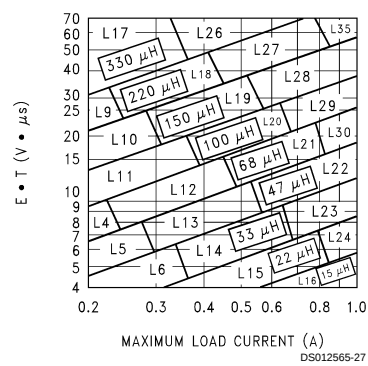

FIGURE 7. LM2595-ADJ
2. Inductor Selection (L1) A. Calculate the inductor Volt • microsecond constant $E \cdot T$ ($V \cdot \mu s$), from the following formula: $E \cdot T = (V_{IN} - V_{OUT} - V_{SAT}) \cdot \frac{V_{OUT} + V_D}{V_{IN} - V_{SAT} + V_D} \cdot \frac{1000}{150 \text{ kHz}} (V \cdot \mu s)$ where V_{SAT} = internal switch saturation voltage = 1V and V_D = diode forward voltage drop = 0.5V B. Use the $E \cdot T$ value from the previous formula and match it with the $E \cdot T$ number on the vertical axis of the Inductor Value Selection Guide shown in Figure 7. C. on the horizontal axis, select the maximum load current. D. Identify the inductance region intersected by the $E \cdot T$ value and the Maximum Load Current value. Each region is identified by an inductance value and an inductor code (LXX). E. Select an appropriate inductor from the four manufacturer's part numbers listed in Figure 8. 3. Output Capacitor Selection (C_{OUT}) A. In the majority of applications, low ESR electrolytic or solid tantalum capacitors between 47 μF and 330 μF provide the best results. This capacitor should be located close to the IC using short capacitor leads and short copper traces. Do not use capacitors larger than 330 μF. For additional information, see section on output capacitors in application information section. B. To simplify the capacitor selection procedure, refer to the quick design table shown in Figure 3. This table contains different output voltages, and lists various output capacitors that will provide the best design solutions. C. The capacitor voltage rating should be at least 1.5 times greater than the output voltage, and often much higher voltage ratings are needed to satisfy the low ESR requirements needed for low output ripple voltage. 4. Feedforward Capacitor (C_{FF}) (See Figure 1) For output voltages greater than approximately 10V, an additional capacitor is required. The compensation capacitor is typically between 50 pF and 10 nF, and is wired in parallel with the output voltage setting resistor, R_2. It provides additional stability for high output voltages, low input-output voltages, and/or very low ESR output capacitors, such as solid tantalum capacitors. $C_{FF} = \frac{1}{31 \times 10^3 \times R_2}$ This capacitor type can be ceramic, plastic, silver mica, etc. (Because of the unstable characteristics of ceramic capacitors made with Z5U material, they are not recommended.)	2. Inductor Selection (L1) A. Calculate the inductor Volt • microsecond constant ($E \cdot T$), $E \cdot T = (28 - 20 - 1) \cdot \frac{20 + 0.5}{28 - 1 + 0.5} \cdot \frac{1000}{150} (V \cdot \mu s)$ $E \cdot T = (7) \cdot \frac{20.5}{27.5} \cdot 6.67 (V \cdot \mu s) = 34.8 (V \cdot \mu s)$ B. $E \cdot T = 34.8 (V \cdot \mu s)$ C. $I_{LOAD(max)} = 1A$ D. From the inductor value selection guide shown in Figure 7, the inductance region intersected by the 35 ($V \cdot \mu s$) horizontal line and the 1A vertical line is 100 μH, and the inductor code is L29. E. From the table in Figure 8, locate line L29, and select an inductor part number from the list of manufacturers part numbers. 3. Output Capacitor Selection (C_{OUT}) A. See section on C_{OUT} in Application Information section. B. From the quick design table shown in Figure 3, locate the output voltage column. From that column, locate the output voltage closest to the output voltage in your application. In this example, select the 24V line. Under the output capacitor section, select a capacitor from the list of through hole electrolytic or surface mount tantalum types from four different capacitor manufacturers. It is recommended that both the manufacturers and the manufacturers series that are listed in the table be used. In this example, through hole aluminum electrolytic capacitors from several different manufacturers are available. 82 μF, 35V Panasonic HFQ Series 82 μF, 35V Nichicon PL Series C. For a 20V output, a capacitor rating of at least 30V or more is needed. In this example, either a 35V or 50V capacitor would work. A 35V rating was chosen, although a 50V rating could also be used if a lower output ripple voltage is needed. Other manufacturers or other types of capacitors may also be used, provided the capacitor specifications (especially the 100 kHz ESR) closely match the types listed in the table. Refer to the capacitor manufacturers data sheet for this information. 4. Feedforward Capacitor (C_{FF}) The table shown in Figure 3 contains feed forward capacitor values for various output voltages. In this example, a 1 nF capacitor is needed.